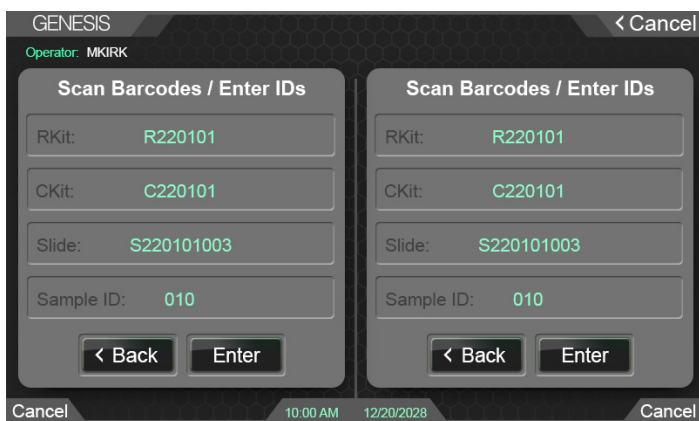

Fig. 21. Populate data for run.
11. Populate the data entry fields recording the reagents, consumables and slide identifiers using the Barcode Scanner (Figure 21).